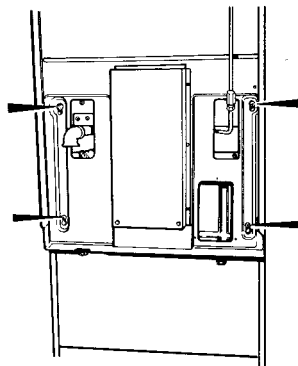

Fig. 1
The four splashback screws should be screwed into the back of the cooker about halfway in (Fig. 1). Engage the keyhole slots in the splashback behind the four screws and tighten the screws. Connect the grill supply union at the back of the cooker.
2. Remove grill pan and shelf. Remove the splashback from the rear of the appliance by removing flexible tubing from inlet elbow, disconnecting the grill supply union and slackening the 4 splashback fixing screws (See Fig. 1). Lift splashback off.